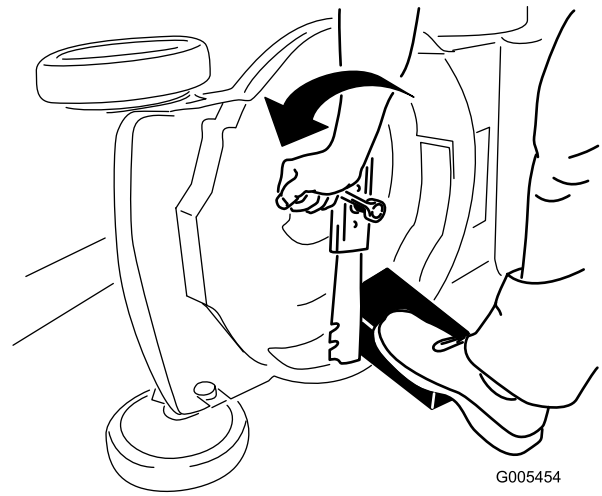

Figure 50
3. Use a block of wood to hold the blade steady (Figure 50).
4. Remove the blade, saving all mounting hardware (Figure 50).